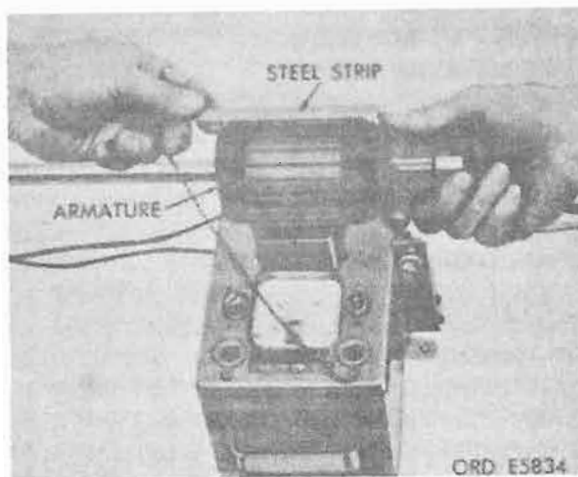

Figure 7-15. Testing armature for shorts.
(4) Test armature for shorts as shown in figure 7-15. Place armature on growler, following instructions of manufacturer of test equipment. Hold thick steel strip on core and rotate armature slowly through one complete revolution. Short will be indicated by steel strip becoming magnetized and vibrating. Discard armature if shorted.
(5) Test armature for opens, following instructions of the manufacturer of the test equip-